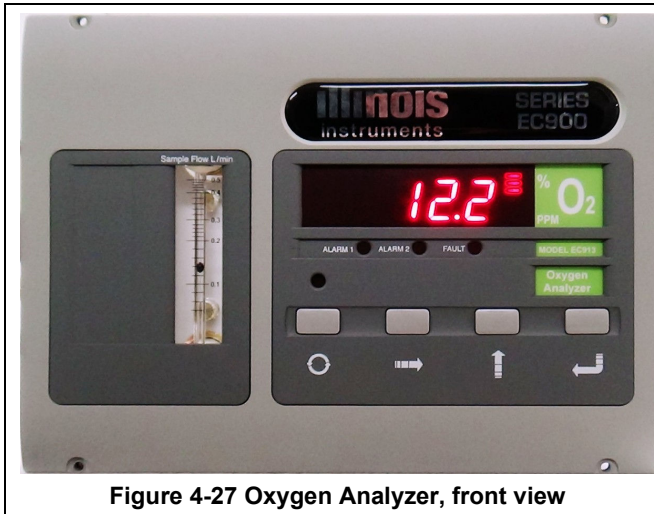
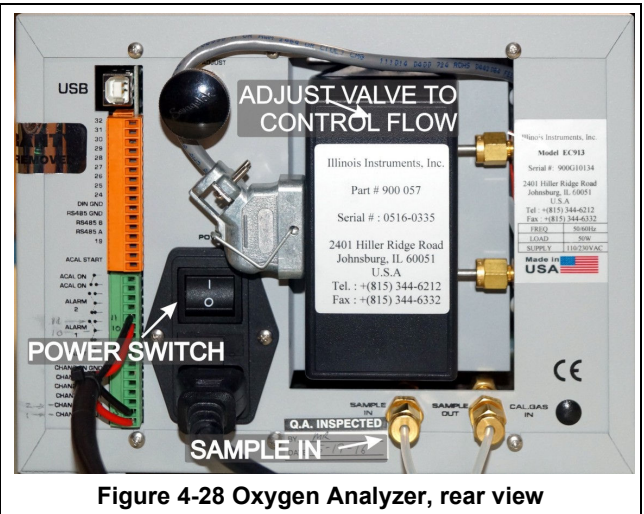

Figure 4-27 Oxygen Analyzer, front view
Figure 4-28 Oxygen Analyzer, rear view
On the Process screen use O2 Sampling popup screen to start analyzer, Figure 4-25. Click on O2 Port Select to open popup. If the analyzer does not start when enabled on the popup screen, check that the power switch in the back of the analyzer is in the up position (ON), Figure 4-28.
While Oxygen analyzer is running verify the sample flow on the flowmeter on the front of the analyzer is correct, Figure 4-27. Default is 0.1 to 0.15 L/min. If necessary, adjust the valve on the back of the analyzer to desired sample rate. Figure 4-28 shows the control valve on the rear of the oxygen analyzer. Once set, this valve seldom needs to be adjusted.